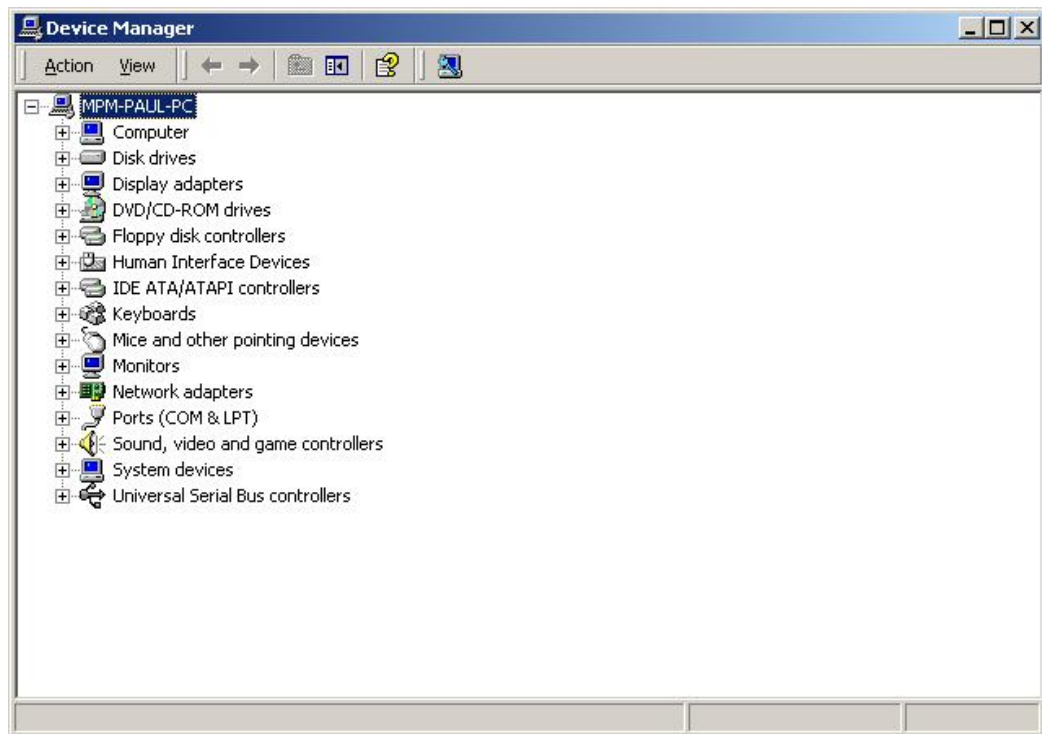

Figure 7-21: Device Manager List
Step 4: A list of system hardware devices appears (Figure 7-21).